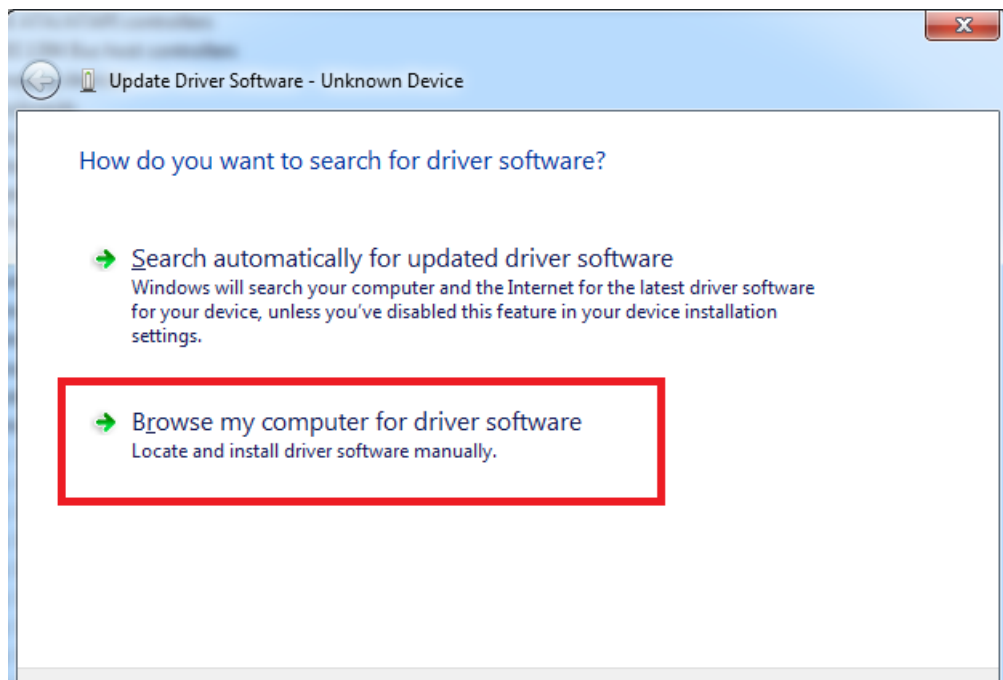

Fig. 4.
- Press "Update driver software"; screen as in Fig. 4 should appear: